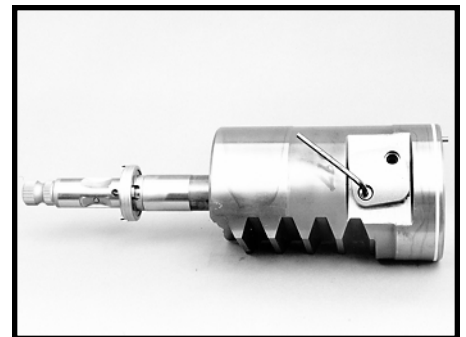
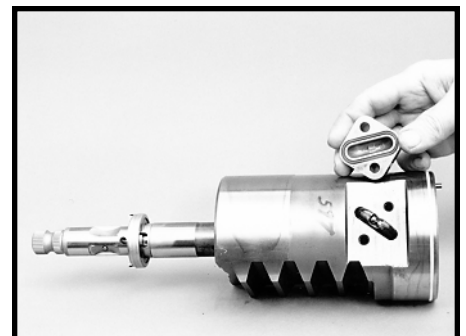

Figure 73
Figure 74
34. For a rack piston with the ball return guide cap (46) instead of the clip, remove the two special screws (47) which will require either a 5/32 inch allen wrench or a T-30 Torx wrench. SEE FIGURE 73. Remove the ball return guide cap and the ball return cap seal (45). SEE FIGURE 74. Discard screws and cap seal.